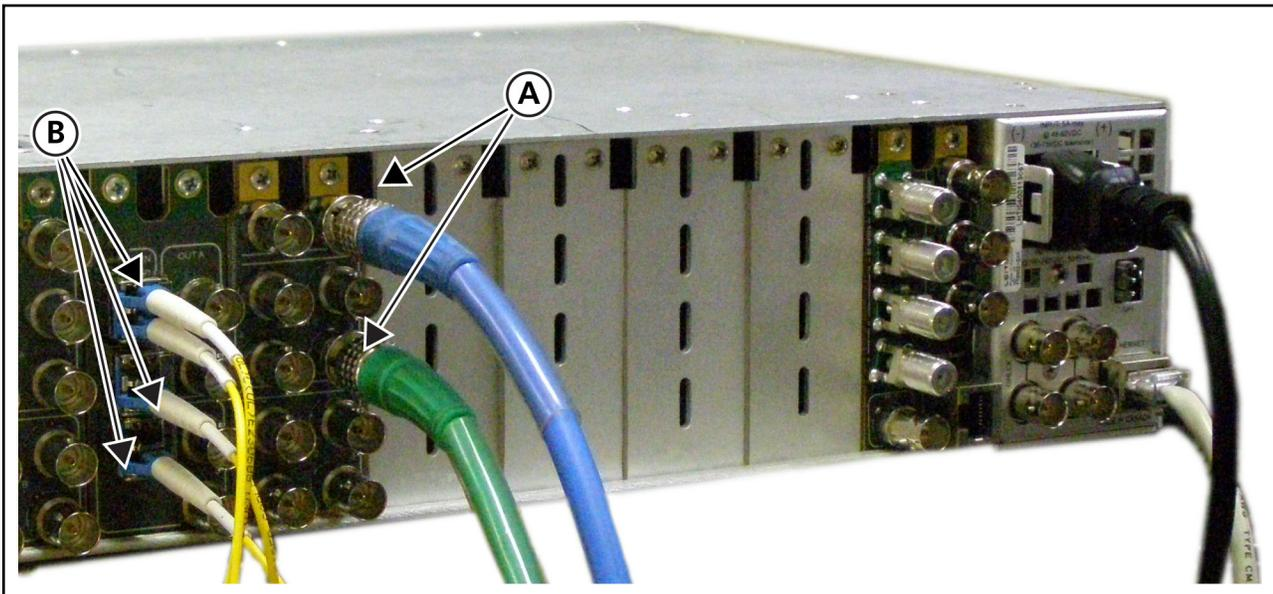

Figure 2-3 Plugging in Coaxial and Fiber Optical Cables
Back module setup consists of plugging in coaxial cables (A) and fiber optical cables (B), as shown in **Figure 2-3**. Apply a 75Ω coaxial cable to the BNC jacks and LC single mode fiber optical cables, as appropriate, to installed back modules. The other ends of the cables should be connected to a system's other devices.